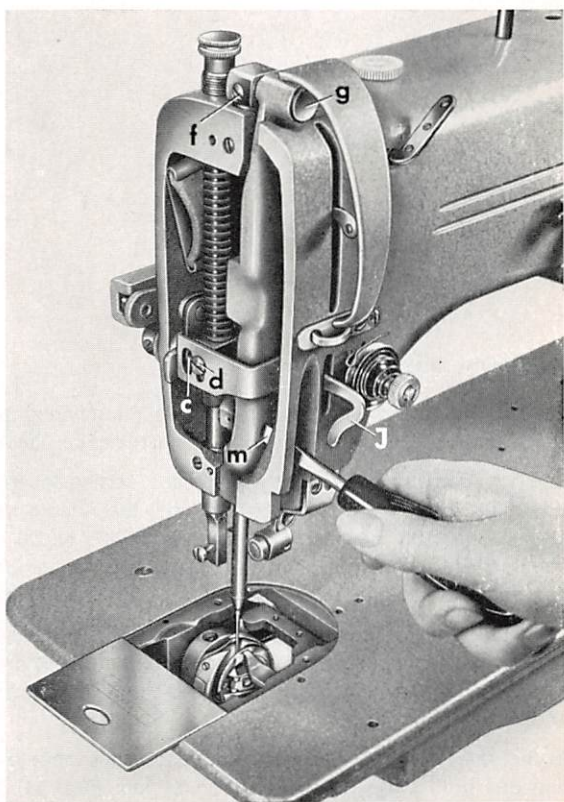
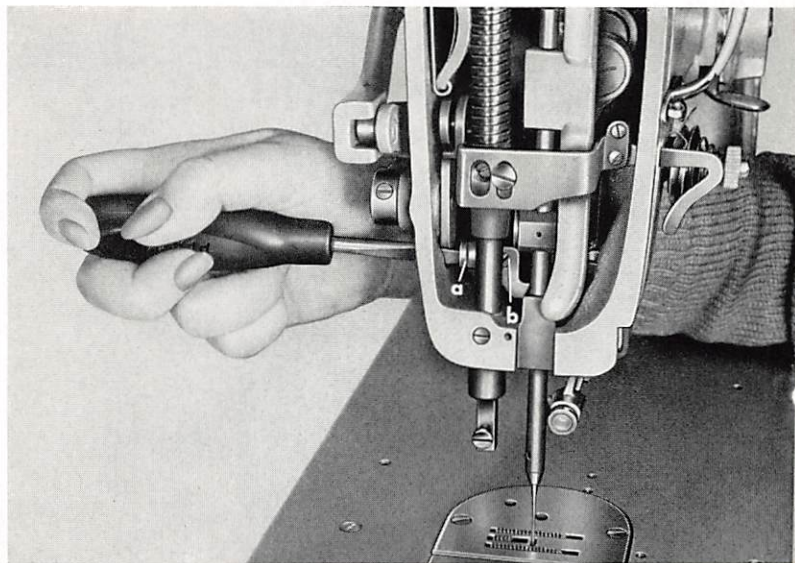

Fig. 28
Fig. 36
Thread regulator J (Fig. 28) is mounted on the presser bar guide collar and moves up and down with the presser bar as the sewing foot passes over irregularities in thickness. By so doing, it adapts the thread consumption to the varying thicknesses of the material being sewn. As a result of this action, the check spring has to take up less thread when thicker portions of the material pass under the sewing foot.
Thread regulator J can be adjusted vertically after loosening screw d (Fig. 28). By setting the thread regulator higher or lower the amount of thread to be controlled by the thread check spring can be adjusted within certain limits. It is recommended to correlate the thread regulator and tension barrel settings so that the thread check spring not only takes up the proper amount of thread, but also pulls the thread upwards perpendicularly.
If adjustment is required, loosen set screw **m** (Fig. 28) and set the needle bar higher or lower, as may be required.
2. Take out pressure regulating screw and remove presser bar spring. Loosen set screw **c** (Fig. 28) and pull the presser bar up out of the machine.
Pull thread regulator **J** (Fig. 28), presser bar guide collar and presser bar lifting bracket back out of the machine.
3. Remove complete needle bar frame assembly so that the height setting of the needle bar will not be disturbed. To do this, loosen set screw **b** (Fig. 36) and remove eccentric stud **a**. Then loosen screw **f** (Fig. 28) and pull out hinge stud **g**. This done, pull the needle bar frame, enclosing the needle bar, forward out of the machine.
When the machine is set for its widest zigzag stitch, the needle should be centered correctly in the needle plate slot and, descending on the right and left of its throw, should clear both ends of the slot at the same distance. If adjustment is required, loosen pinch screw **b** (Fig. 36) and turn eccentric stud **a** in the needle bar frame pitman to the right or left, as may be required.